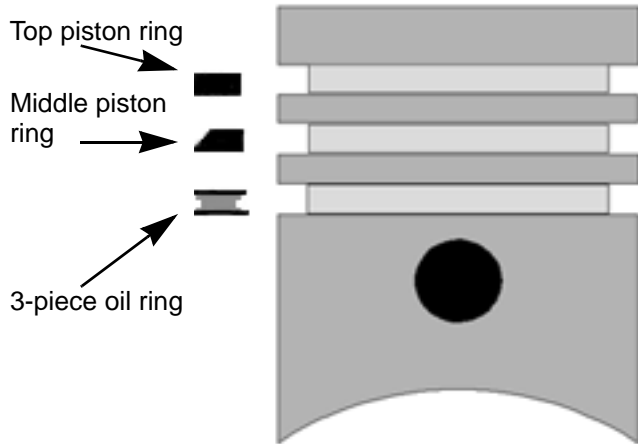

Figure 10.13
**NOTE:** The top ring is symmetrical and the middle ring has a tapered profile. The larger radius of the middle ring should face the crankshaft. See Figure 10.13.